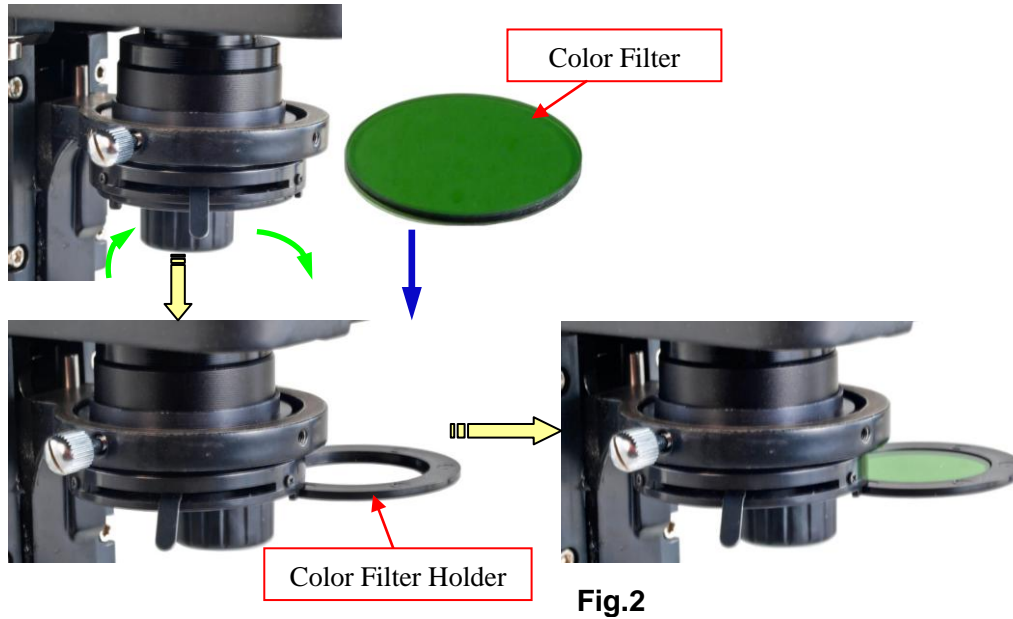

Fig.2
- 2) Place the filter into the holder as shown in **Fig. 2**, swing the holder in.